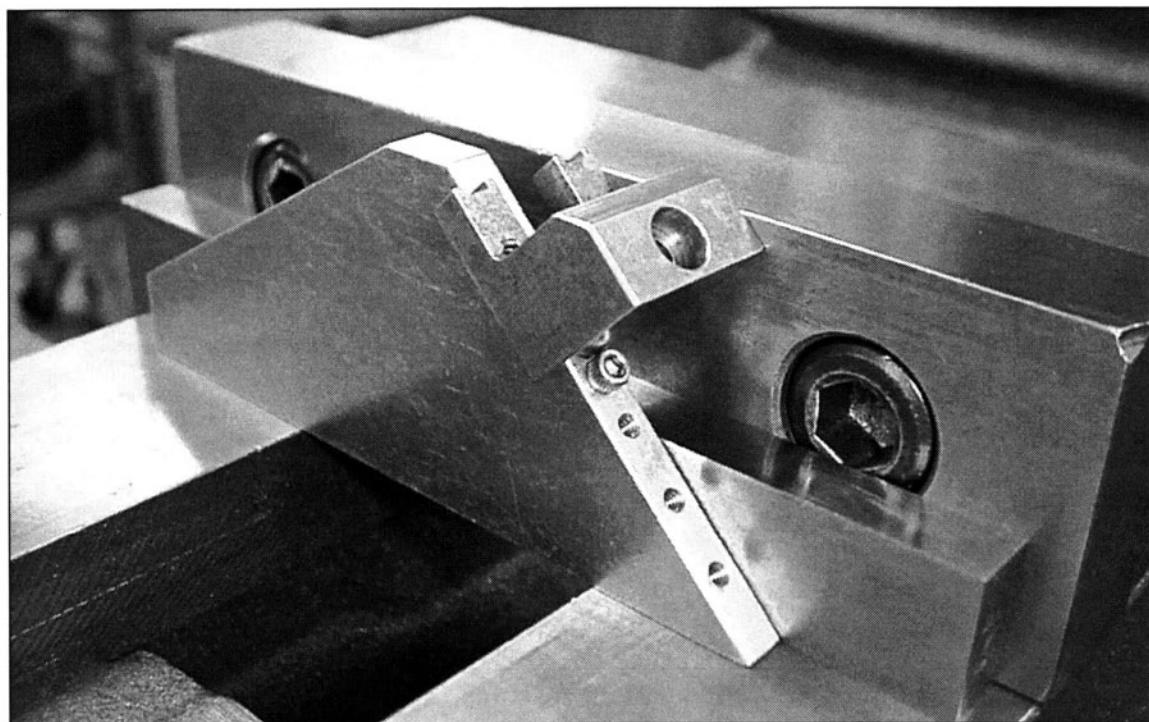

FIGURE 3-27 The tapped holes in the edge of this angle fixture provide a variety of stop positions for locating various size parts for angle machining.
40. *Construct an angle with tapped holes in the edge to provide a variety of stop positions for locating various size parts. (See Fig. 3-27)*